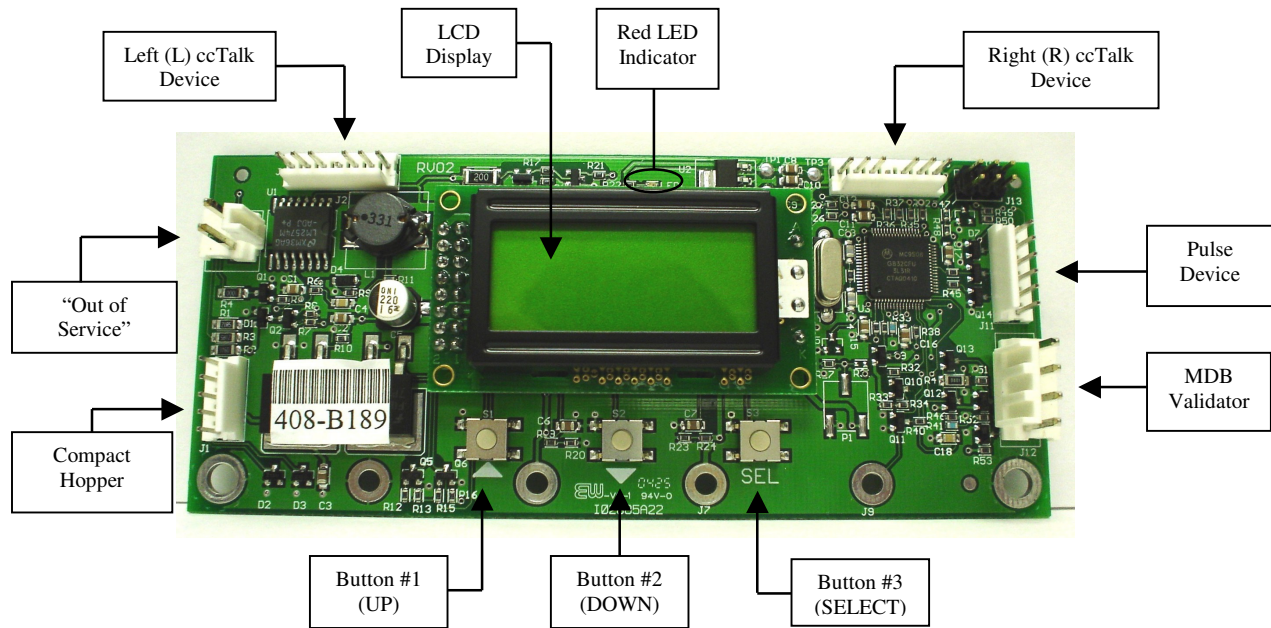

Figure 1 – Main Logic Board
Power-ON the changer, and allow it to run through its start-up procedure, which may take up to a minute or more. During this time, you will hear the validator motors cycling. This is normal. After waiting the allotted time, the changer will be in its Standby state, ready to accept bills or coins. In this state, the MLB display's backlight will be on continuously, and the screen will display the current count of total dollars changed by the machine. Additionally, the board's red LED will blink once per second to indicate that the unit is getting power and functioning normally. (See Figure 1.)
Your changer comes preset with default operational settings that are easily reprogrammed to meet your desired application. Programming is done using the three buttons and LCD display located on the Main Logic Board as an interface. (See Figure 1.)
ccTalk: Select this option if using one or more hoppers with a ccTalk serial interface to the Main Logic Board (MLB). Once selected, enter the number of ccTalk hoppers – one or two – to be used in the changer. *Note: Each Logic Board has the capacity to control two ccTalk hoppers, left and right; but, if only one is used, it must be plugged into the left-side connector (see Figure 1 for the ccTalk device connections on the MLB). Further Note: If your model changer has two Logic Boards and two hoppers, then only one hopper will be controlled by each board; select '1' as the number of ccTalk hoppers on both boards.*
ccTalk: This option should be selected if the installed coin acceptor communicates with the Main Logic Board using ccTalk serial communication protocol (see Figure 1 for the ccTalk device connections on the MLB; contact the coin acceptor's manufacturer or American Changer if help is needed). After choosing ccTalk, the program prompts for specification of the currency type that will be processed by the coin acceptor. Choose either U.S. or Canadian coins.
Pulse: If the installed coin acceptor communicates with the Logic Board using Pulse Protocol, select 'Pulse' (the Condor Plus uses Pulse communication). Following this, the program will request specification of the logic level used to enable the coin acceptor, high (Hi) or low (Lo) (for the Condor Plus, select high). ***Note:*** *The Logic Board can only control one pulse device; if a pulse validator is installed, a pulse coin acceptor cannot be* (see Figure 1 for the pulse device connection on the MLB).
MDB: Select 'MDB,' and then enter how many MDB validators are installed in the changer – either one (1) or zero (None!). (See Figure 1 for the MDB validator connection on the Main Logic Board.)
Pulse: Select 'Pulse,' and then choose either one (1) or zero (None!) to specify the number of pulse validators that are inside the unit. If '1' is chosen, then the program will further prompt for whether the validator is enabled using a logic-high (Hi) or a logic-low (Lo) signal; either must be chosen. ***Note:*** *The Logic Board can only control one pulse device; if a pulse coin acceptor is installed, a pulse validator cannot be.* (See Figure 1 for the pulse device connection on the MLB.)